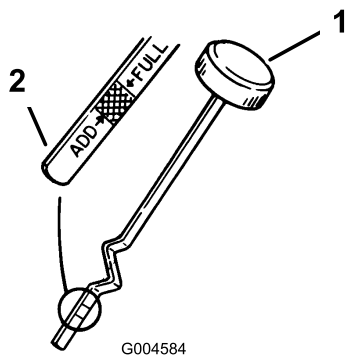

Figure 19
9. Unscrew the oil dipstick and wipe the metal end clean (Figure 19).